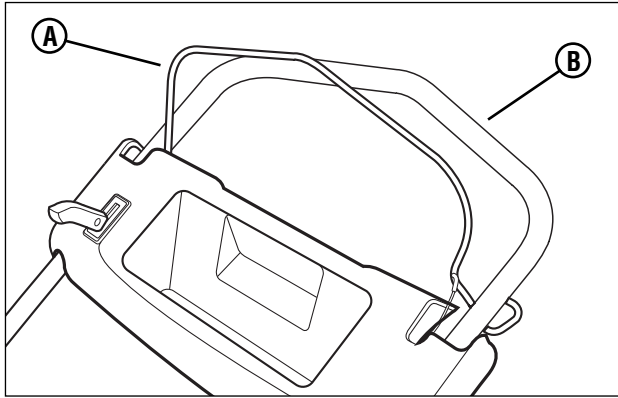

Figure 1: Mower controls
2. Check the blade control (**A, Figure 1**) and drive handle (**B**) to insure they work freely.